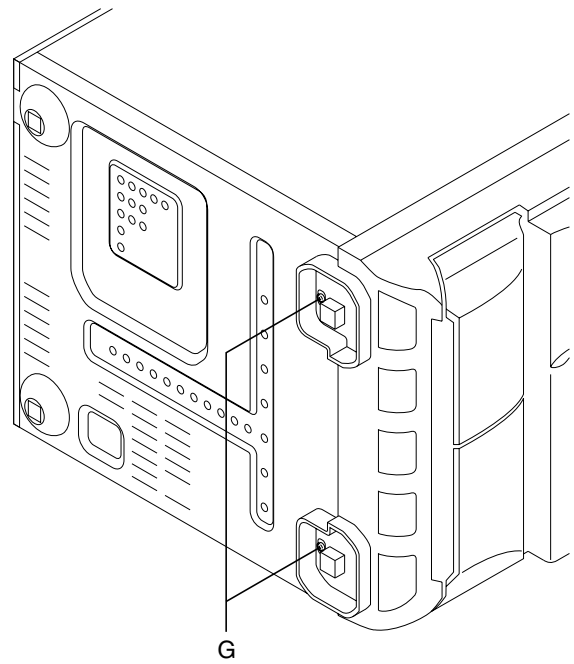

Fig.10
■ Removing the front panel assembly (See Fig.10 and 11)